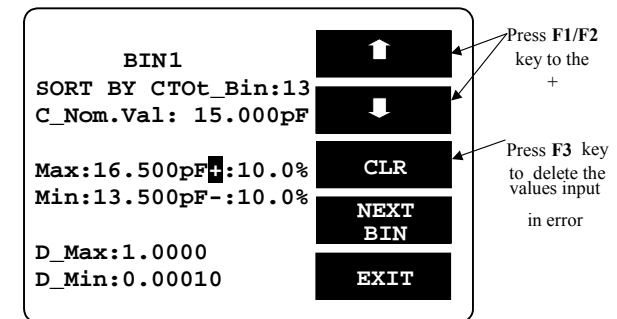

Figure 8-18
- Press **↓** key. Please refer to Figure 8-18 below.